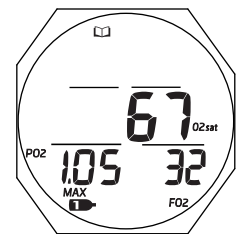

Fig. 35 - LOG DATA 3
**Log Data 3**, information includes (Fig. 35):